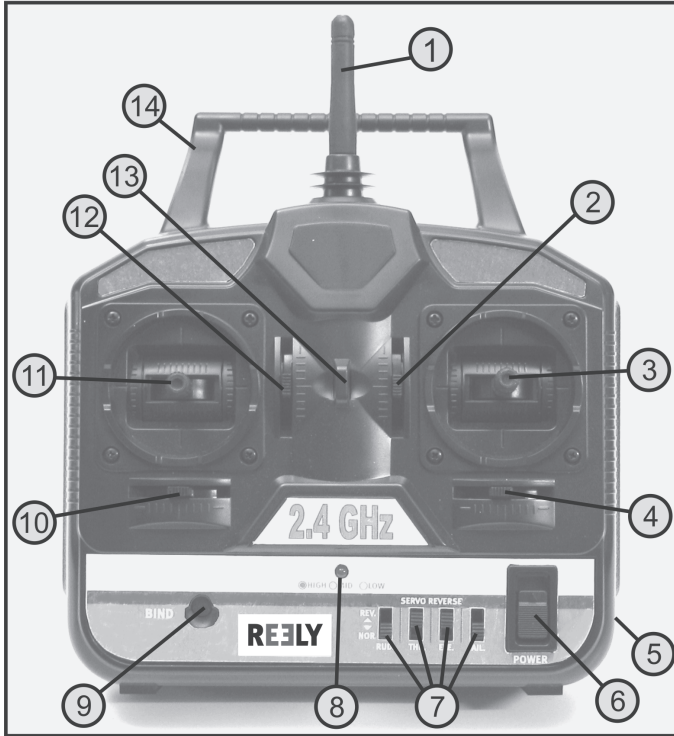

Figure 1
When new batteries or freshly charged rechargeable batteries have been inserted, switch on the transmitter with the function switch (see figure 1, item 6) for test purposes. The green LED display (see figure 1, item 8) indicates the power supply of the transmitter.
Slide the pitch function control lever (see figure 1, item 11) and the trimming slider for the pitch function (see figure 1, item 12) into their respective lowest position at the transmitter.